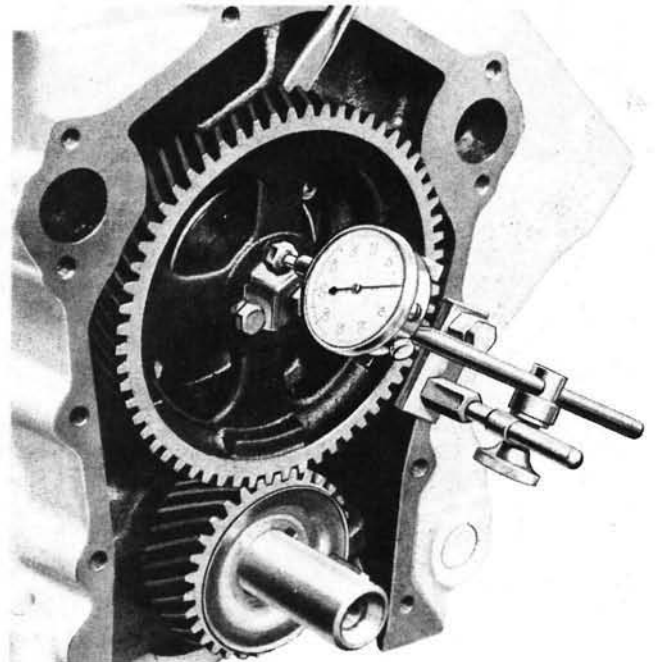

FIG. 52—Camshaft End Play—302 or 332 Engine
4. Push the camshaft toward the rear of the engine. Place a dial indicator so the point rests against one of the camshaft gear retaining bolts (Fig. 52). Set the dial on zero, then pull the camshaft forward and release it. Compare the dial reading with specifications. If the end play is excessive, check the spacer for correct installation. Replace the thrust plate and/or spacer if necessary.